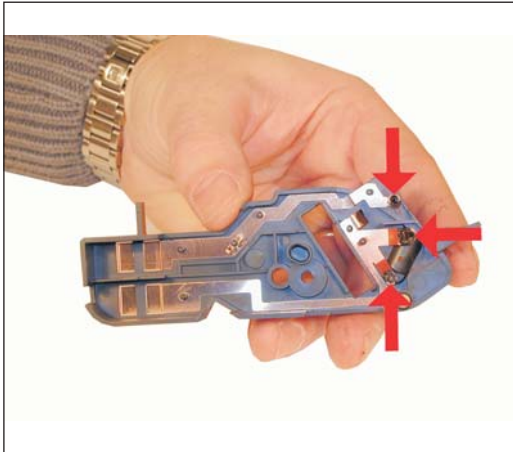

Figure 89
57) On the remaining end cap, clean off all the old conductive grease from the contacts and the small spring. Replace with small amounts of new conductive grease. See Figures 89 & 90